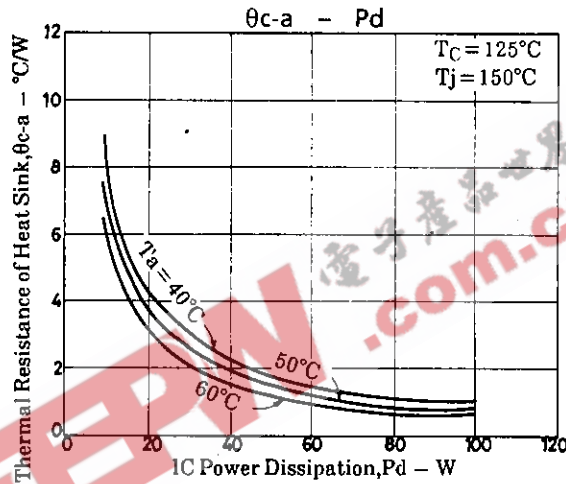

Fig.2 STK4231II. θc-a - Pd
Fig. 2 shows the relation between Pd and θc-a given from (1) and (3) with Ta as a parameter.
The thermal resistance of a heat sink is obtained from Fig. 2.